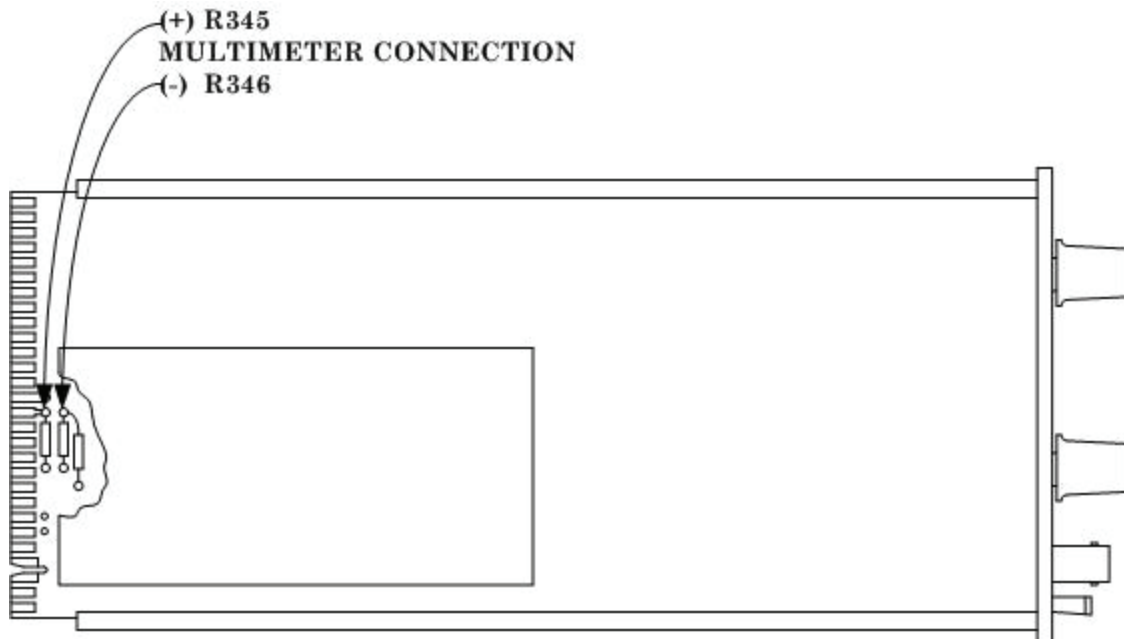

Figure 2. Calibration fixture - left view.
¹Refer to figure 2 in TB 9-4931-501-24.
- (4) Connect positive input of multimeter to R345 and negative input to R346 as shown in figure 2.
- (5) Pull oscilloscope **POWER** switch to on.
- (6) Adjust **POSITION** control to midrange.